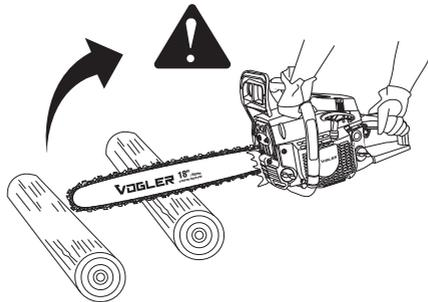

Fig. 1
- Rotational kickback can happen if the upper tip of the guide bar hits something while the chain is moving (see Fig. 1 & 2). This can cause the chain to dig into the object and momentarily stop moving. The guide bar is then kicked up and back toward the operator in a lightning-fast reverse reaction.
- DO NOT cut with the tip of the guide bar (Fig.1).